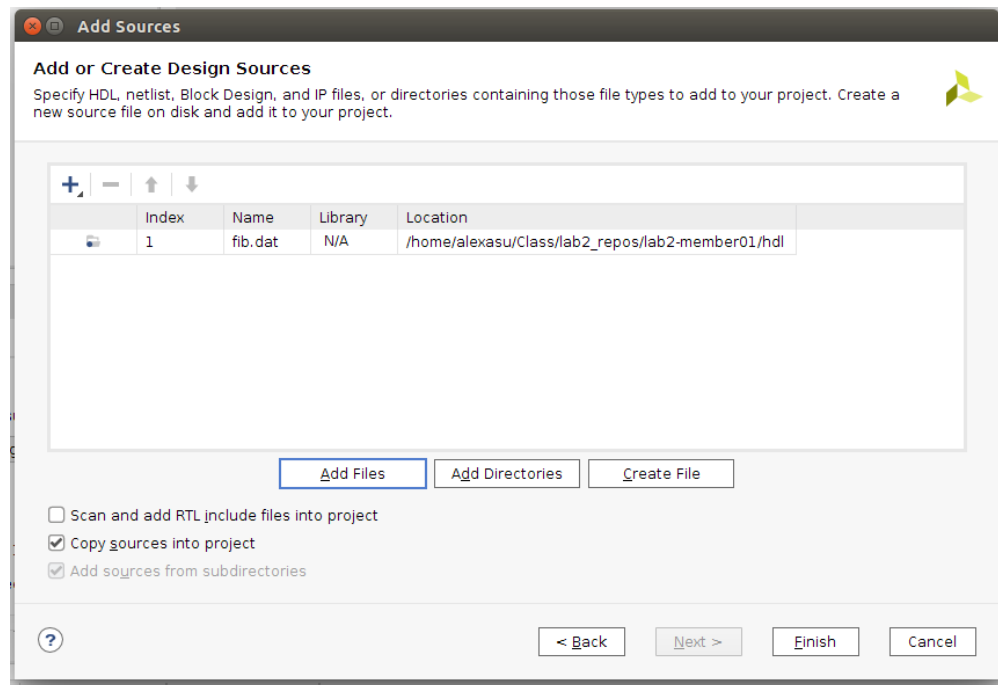

Figure 12: Open Hardware Target
4. The files you selected will be listed in the Add or Create Design Sources window. Make sure the Copy sources into project box is checked and then click Finish (Figure 12).